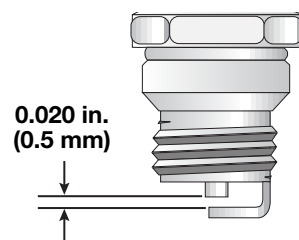

Fig. 32
- Replace a cracked, fouled or dirty spark plug. Set the air gap at **0.020 in. (0.5 mm)** using a feeler gauge (Fig. 32).